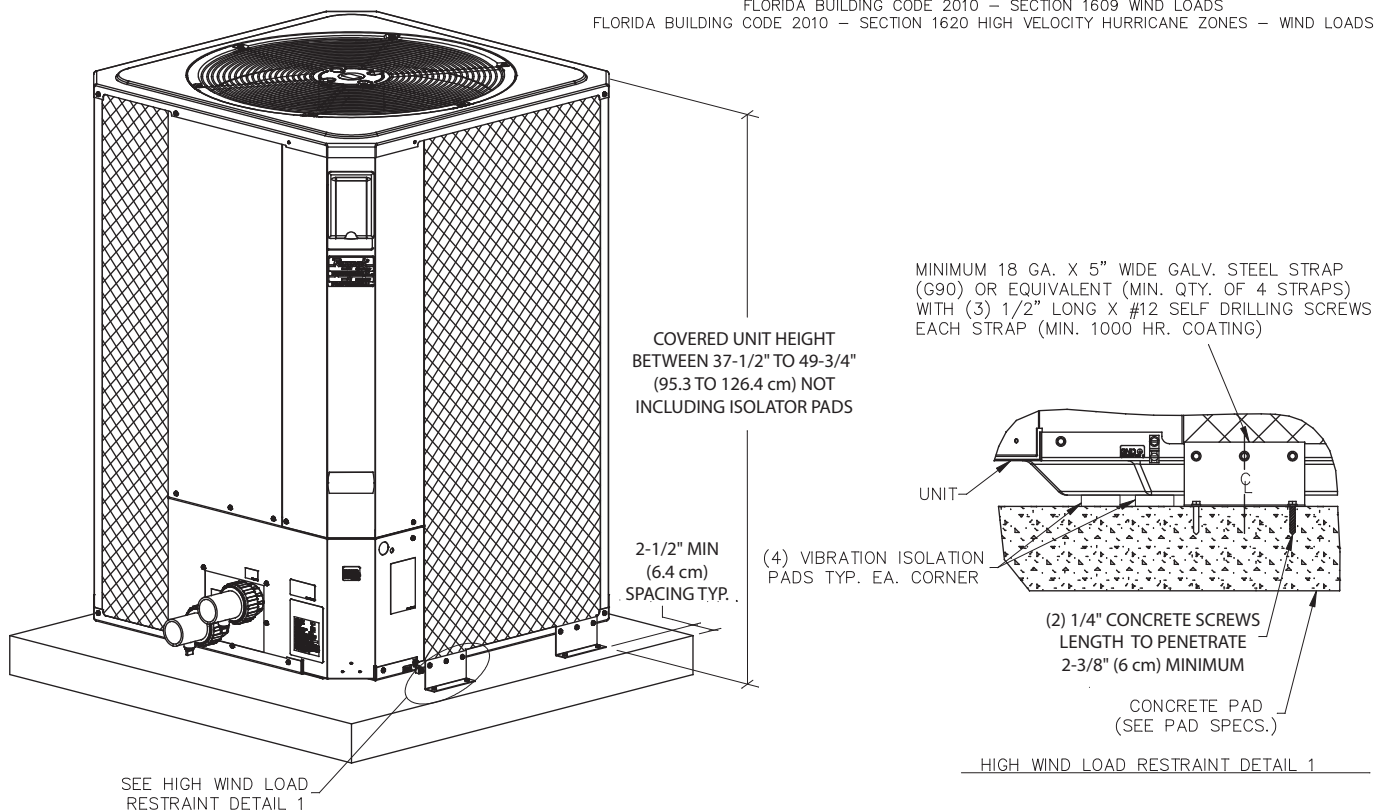

Figure 2. Hurricane Tie Down Instructions
- For high wind installation requirements, refer to **Figure 2**.